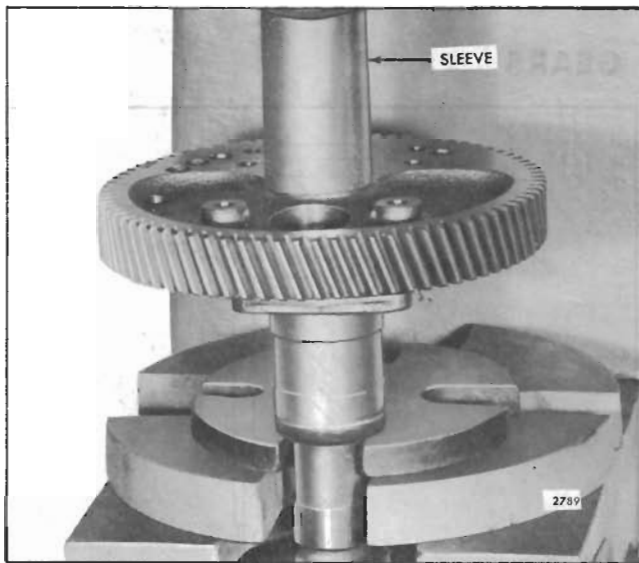

Fig. 4 - Installing Camshaft Gear
4. Then, with the camshaft supported in an arbor press, place a sleeve on top of the gear and press the gear tight against the shoulder on the shaft (Fig. 4).